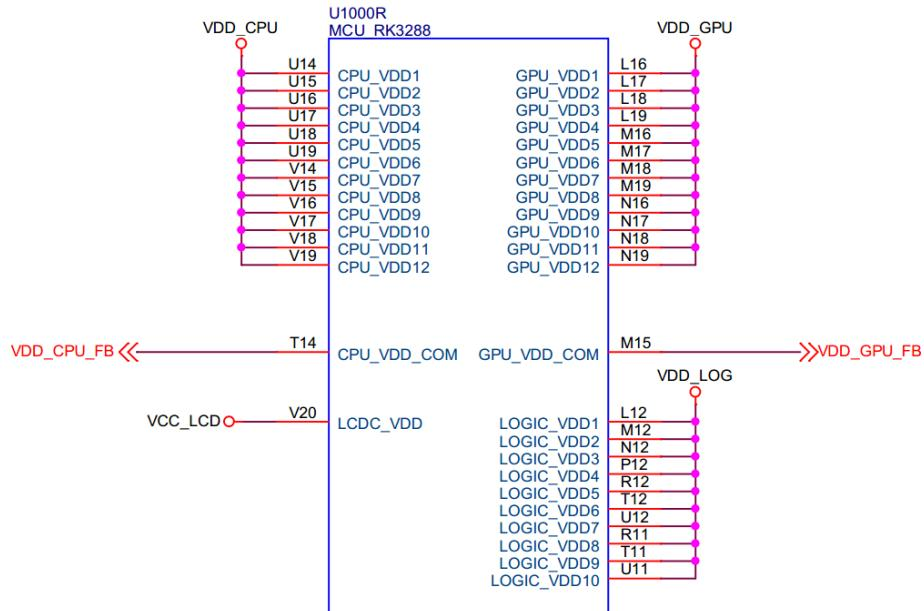

Figure 14-9
- Please ensure LCDC\_VDD power supply work normally when designing, otherwise, the display would abnormal, shown as Pin V20 in the Figure 14-9.